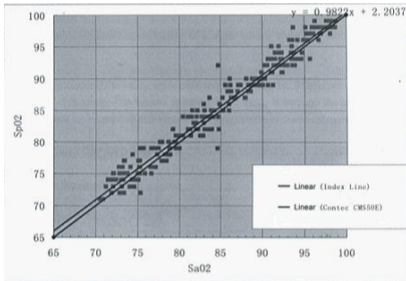
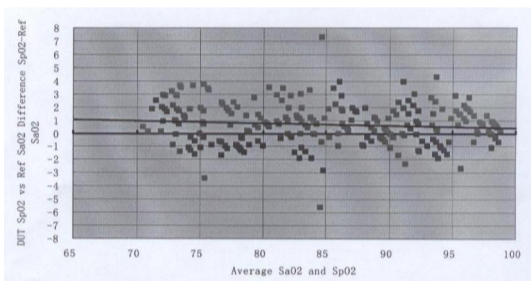

Figure 2. SpO₂ regression plot
Figure 3. Bland-Altman plot
- 5) **Measurement Accuracy:** ±2% in stage of 70%-100% SpO₂, and meaningless when stage being smaller than 70%. ±2 bpm or±2% (select larger) for Pulse Rate. Clinical Trial :SpO₂ regression plot & Bland-Altman plot.Refer to Figure 2 & Figure 3.